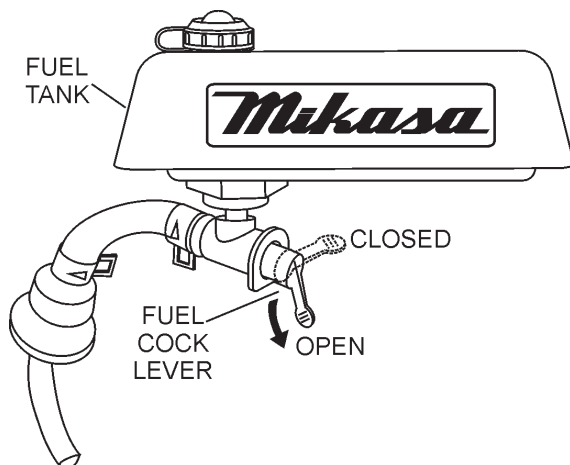

Figure 5. Fuel Shut-Off Valve (ON)
1. Open the **fuel shut-off valve** by moving the **fuel cock lever** to the **open** position (Figure 5).